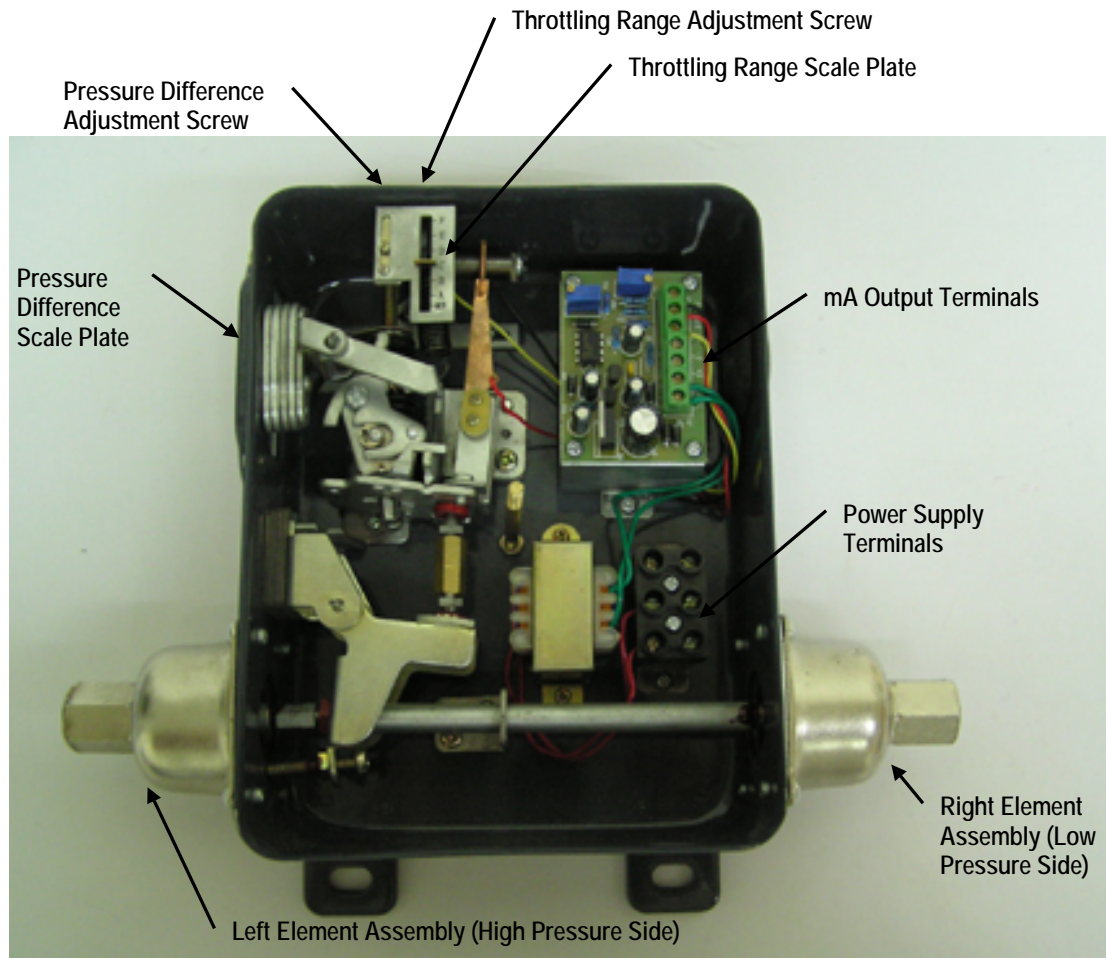

Fig. 5. Internal View of the P906C Differential Pressure Controller
3. Turn the pressure difference adjustment screw counterclockwise (↺) until the scale indicators reach the low (minimum) end of the scale (Fig. 5).